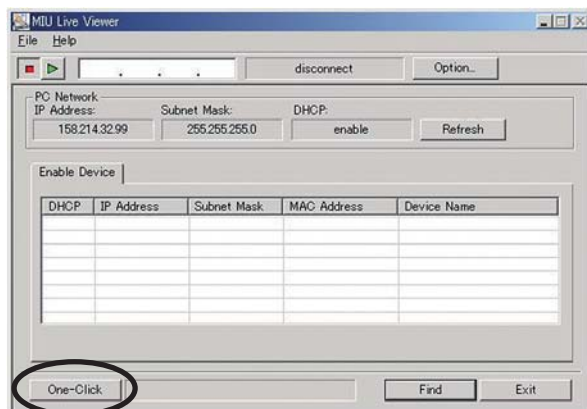

Fig. 2.2.a “MIU Live Viewer” initial window
3) Start up “MIU Live Viewer”. Window appears in fig. 2.2.a. (Refer to section 3.1 how to use “MIU Live Viewer”.)
- 4) Click “One-Click” button in fig. 2.2.a. Projector is found. Then capture start button  is pushed and real time display is started automatically.
- 3) Start up “MIU Live Viewer”, then the window appears (shown in fig. 2.2.a).
- 4) Click “One-Click” button as shown in fig. 2.2.a. Then projector will be found and the capture start button  is activated then real time display is started automatically.